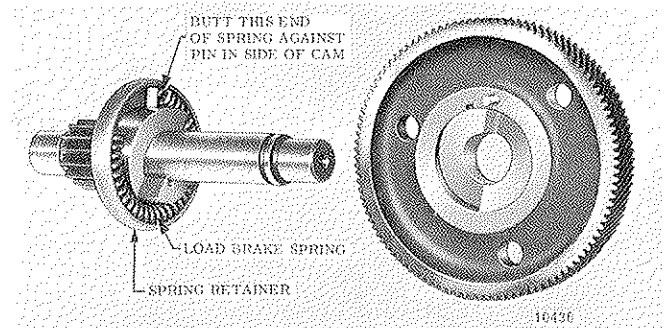

Figure 7-32. Load Brake Gear Removed from Load Brake Shaft Showing Brake Spring Installed in Retainer
(3) Remove load brake gear. If replacement of spring, spring retainer or cam is necessary, press off shaft (fig. 7-32).
(4) The load brake pawl and ratchet is a riveted assembly and is not to be disassembled.
(3) Before installing spring in its retainer (fig. 7-32) apply a good grade of ball bearing grease to inside of retainer. Spring must be positioned exactly as illustrated, butted against pin at side of cam.